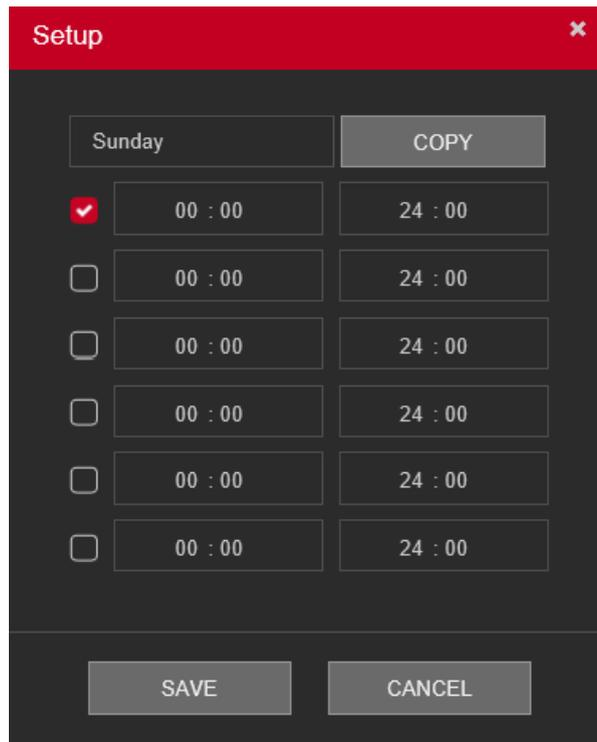

Figure 5.47
- **[Period]** User can also set the alarm time from Monday to Sunday every day 4 time periods, other time will not trigger IVS alarm information. See Figure 5.47.